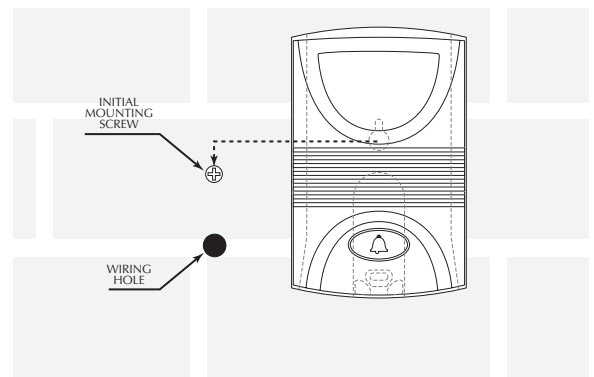

fig 4
4. Secure TDB-2 to wall with a secondary mounting screw as shown in figure 4.